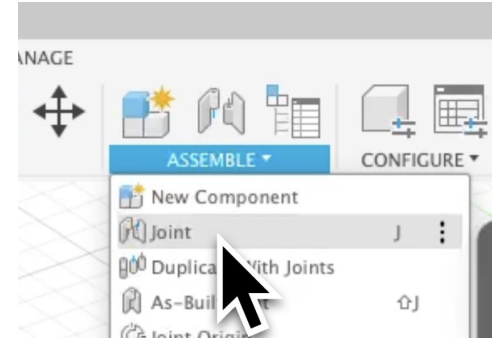

Figure 1.3
- The '**Joint**' feature, found under '**Assemble > Joint**' (see Figure 1.3) creates relationships between components. Each joint defines how parts connect, either fixed or with controlled motion.